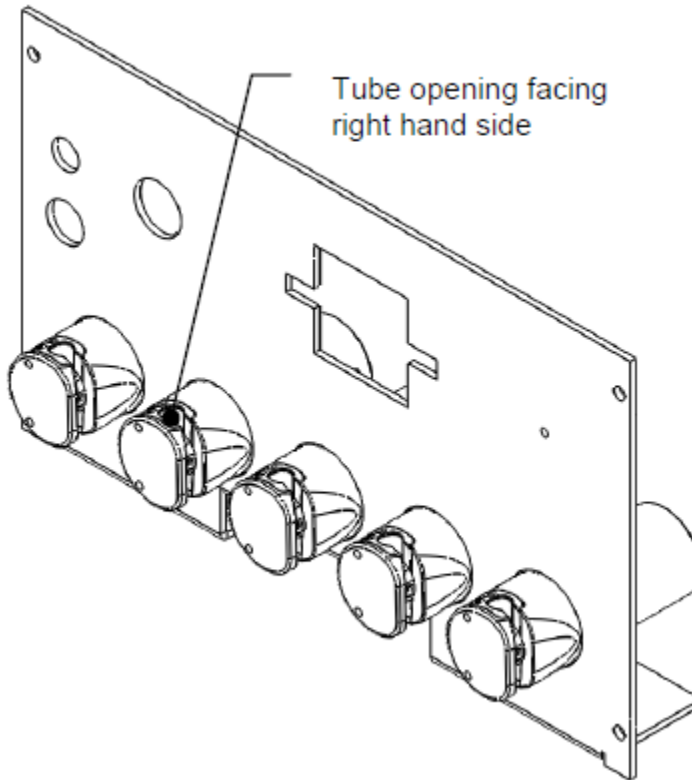

Figure G-10: Insertion Position for a Dispense Valve
2. Replace the Valve as shown in Figure G-10.